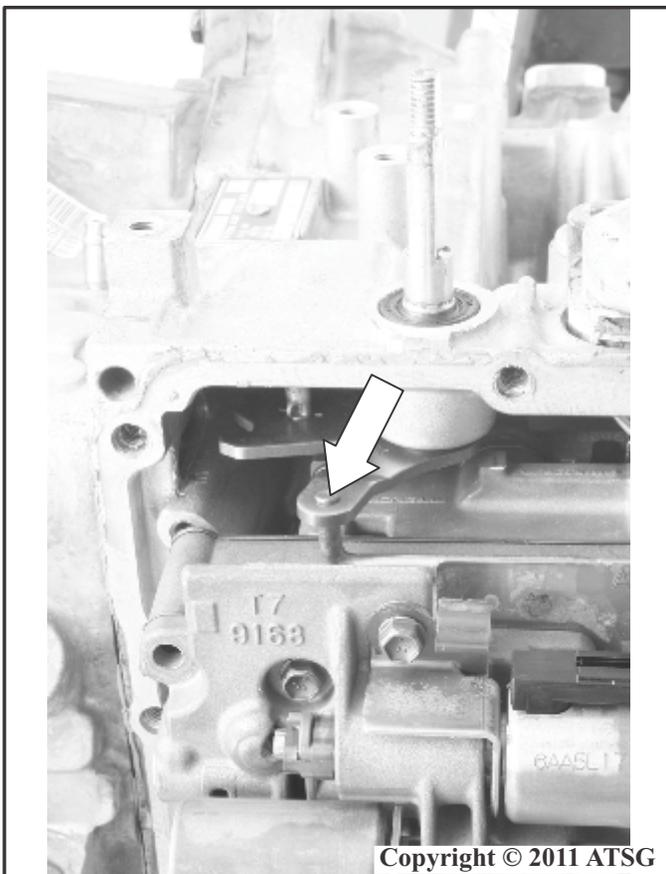

Figure 27
24. While holding the control valve body assembly, carefully remove the manual valve shift detent lever from the manual valve link as shown in Figure 27